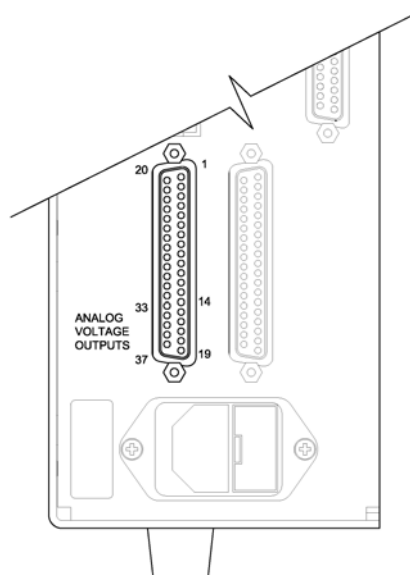

Figure 7-17. Rear Panel Analog Voltage Output Pins
1. Connect a meter to the channel to be tested. Figure 7-17 shows the analog output pins and Table 7-3 identifies the associated channels.
1. Connect a meter to the channel to be adjusted. Figure 7-17 shows the analog output pins and Table 7-3 identifies the associated channels.